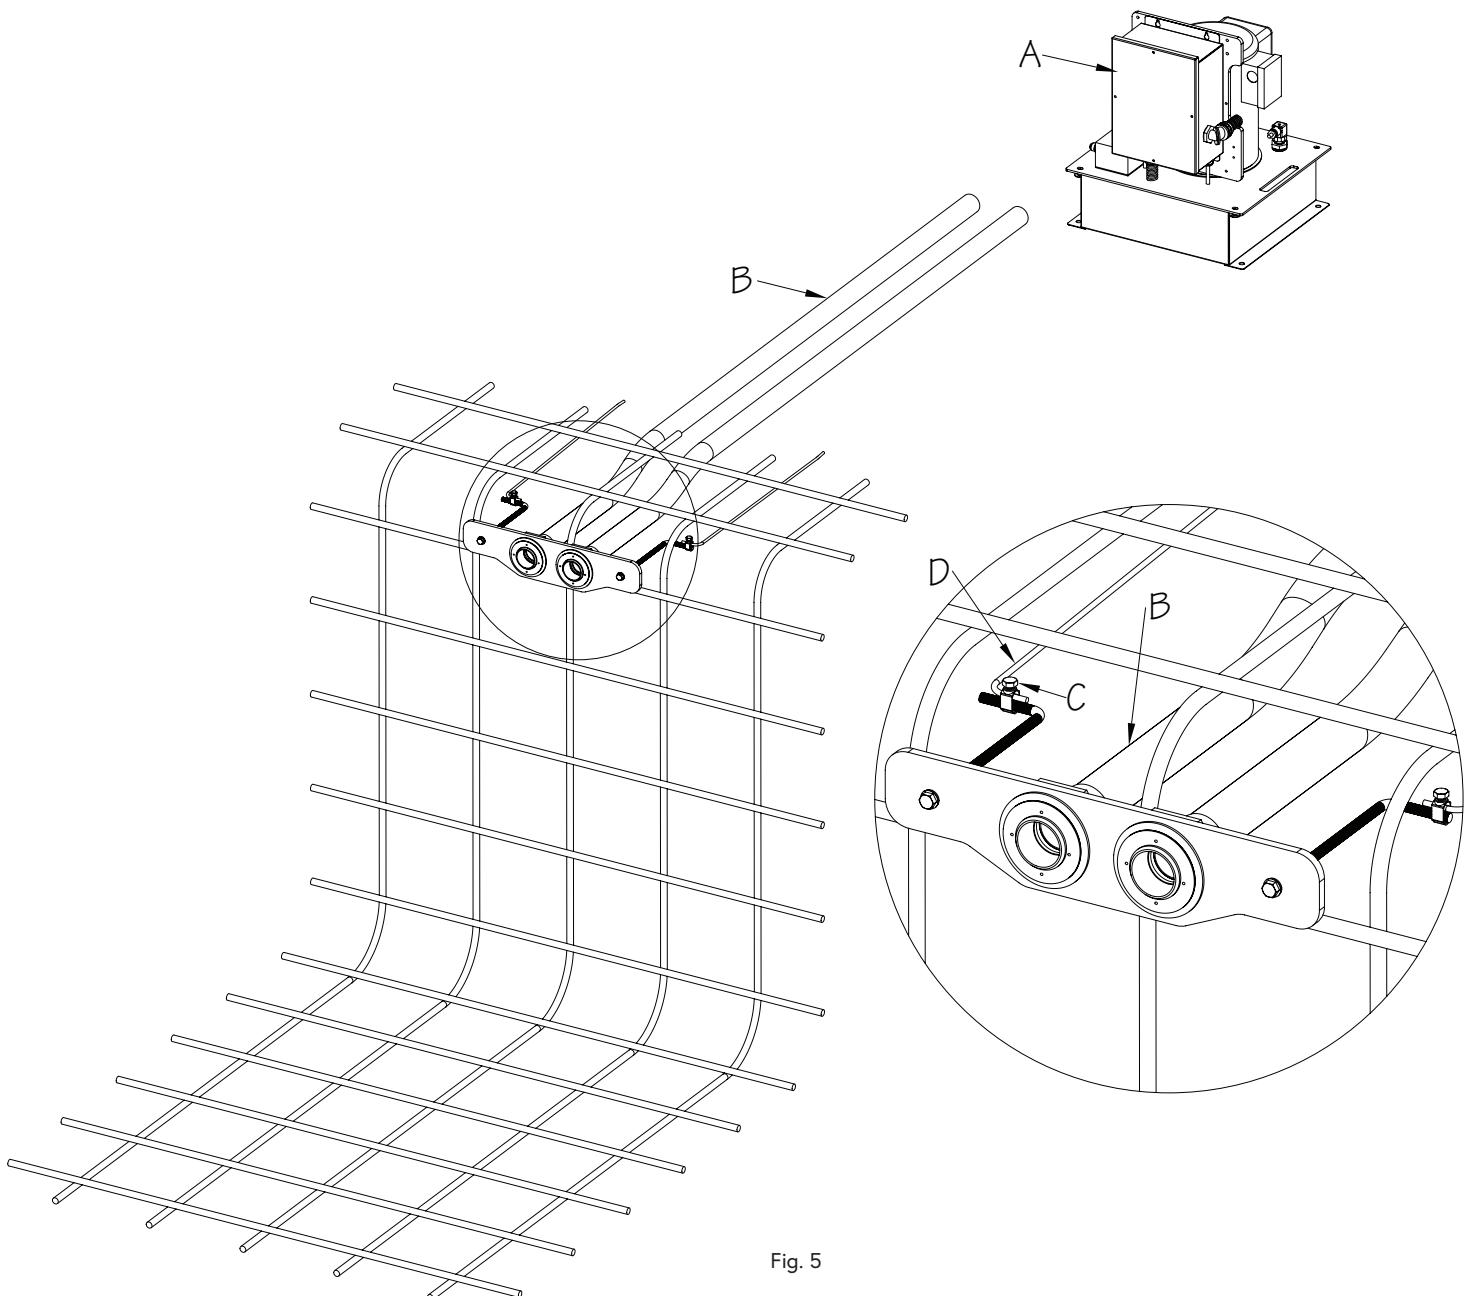

Fig. 5
- The location of the Hydraulic Power Unit (A) should be determined at this point in the installation. Unroll the lengths of 1-1/2" (38mm) flexible PVC Pipe (B) from the back of the mounting kit to the Hydraulic Power Unit. **The conduit run MUST travel above the pool's waterline.** Any bends in the pipe MUST be gradual sweeps and not sharp bends to allow the hydraulic hoses to be easily fed through each conduit. Glue the PVC Pipes into the adapters on the backside of the mounting bracket (Fig. 5).
The rods attached to the mounting bracket MUST be tied into the pool's bonding grid. Install a Bonding Clamp (C) onto each rod. Attach a #8 Solid Copper Wire (D) to each Bonding Clamp and then run these wires to a connection that is incorporated into the pool's bonding grid. In most cases this will be a connection in the rebar (Fig. 5).